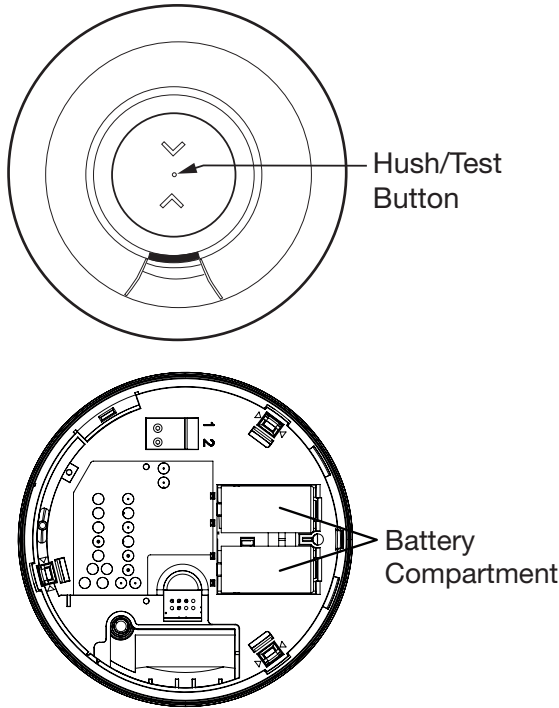

Figure 1. Wireless Smoke Heat Detector
2. Push and hold the **Test button** until the Detector sounds and the red LED flashes (see **Figure 1**). The Detector will stop sounding shortly after the button is released. The alarm panel will trigger and into alarm. The sounder begins the temporal 3 pattern and the red LED blinks. The alarm panel's console should display the Detector's name in alarm.